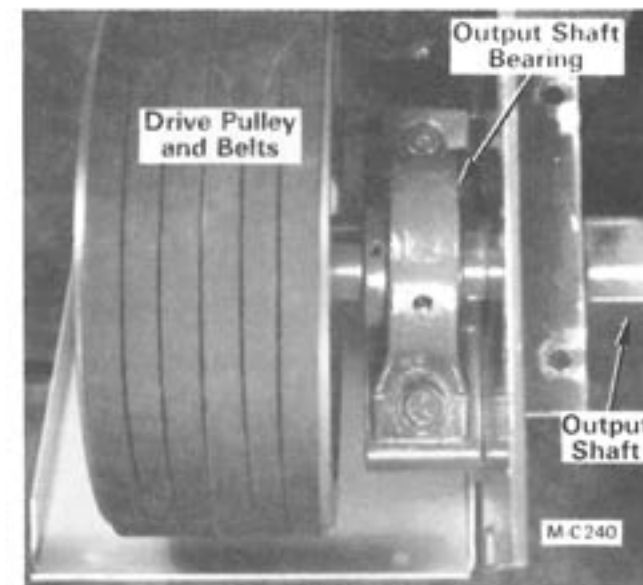

Figure 32
3. Remove the top belt and output shaft guards. Adjust the output shaft bearings, Figure 32, as follows: